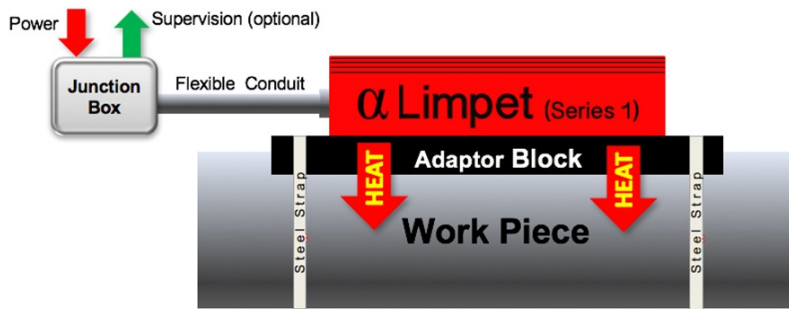

Figure 1 — Typical Series 1 AlphaLimpet application
- Figure 1 shows a Series 1 AlphaLimpet attached to an aluminium Adaptor Block.